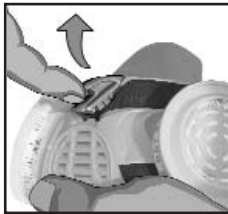

Figure 1
1. Open the lever (see Figure 1).
If leakage is detected around the facial seal, doff and re-don the respirator (See figures 1 to 6). Repeat fit check until there is no leakage. If other than facial seal leakage is detected, the condition must be investigated and corrected before testing again. The respirator user must pass a fit test before use.